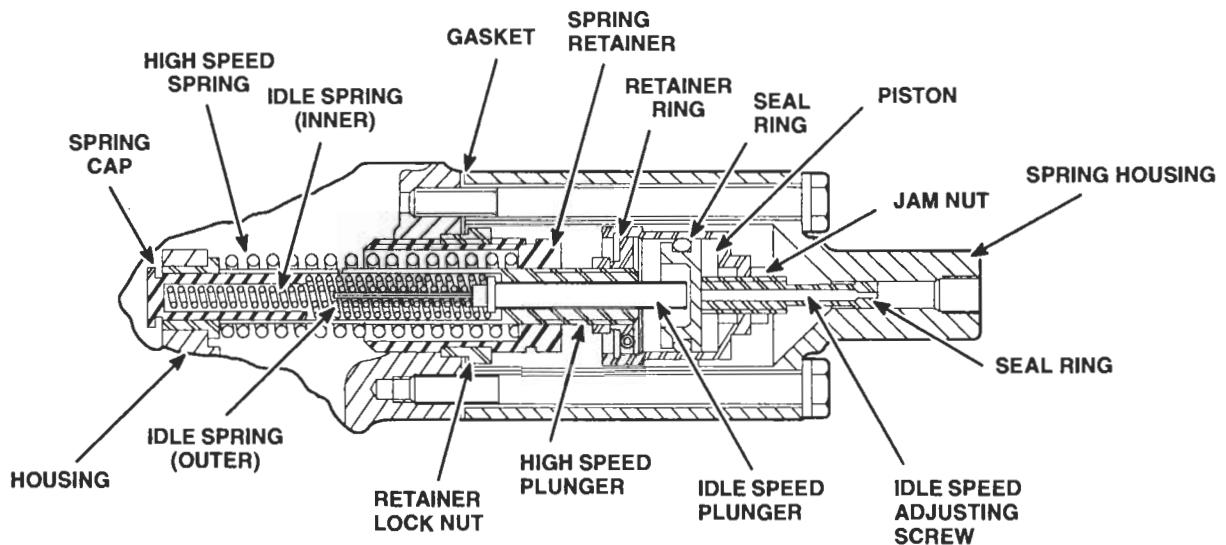

Figure 2. Air Operated Governor Spring Housing and Components
4. For air operated governor make a preliminary idle speed (normal highway idle speed) adjustment as follows (Figure 2.):